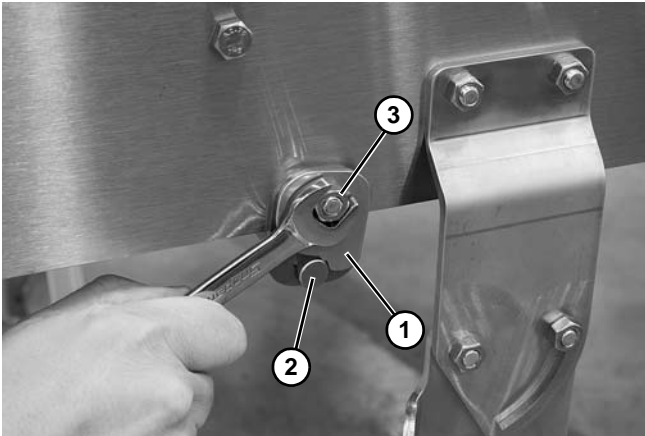

Figure 21
6. Rotate return clip (**Figure 21, item 1**) down against shaft (**Figure 21, item 2**) on both sides of conveyor. Tighten nuts (**Figure 21, item 3**).